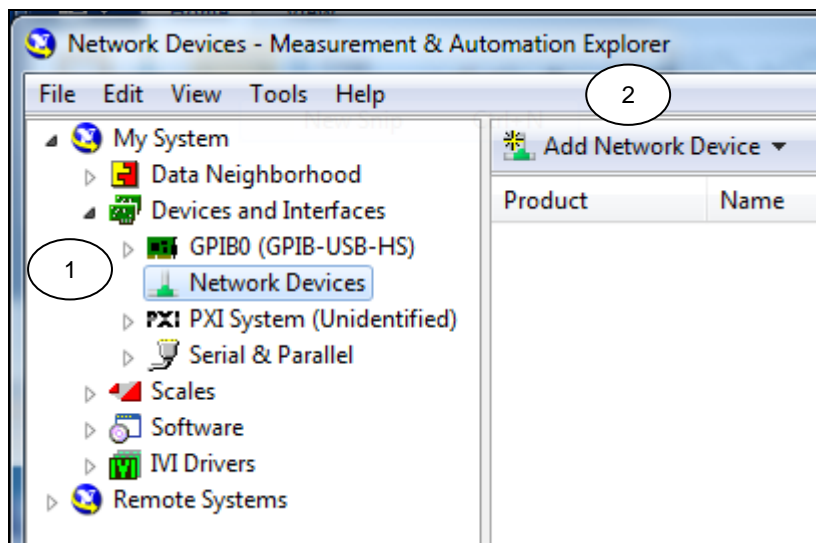

Fig 17
2. Select **Devices and Interfaces**>>**Select Network Devices** (1). Refer to Fig 17.
3. Select **Add Network Device** (2) -> **VISA TCP/IP Resource...**